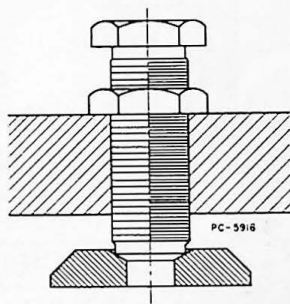
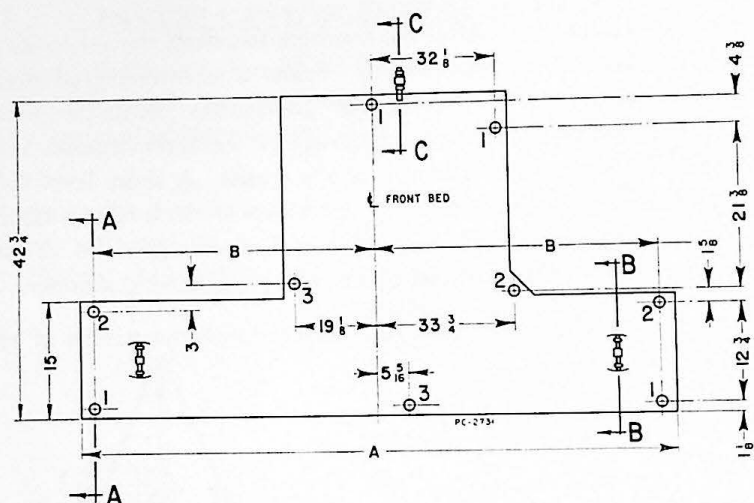
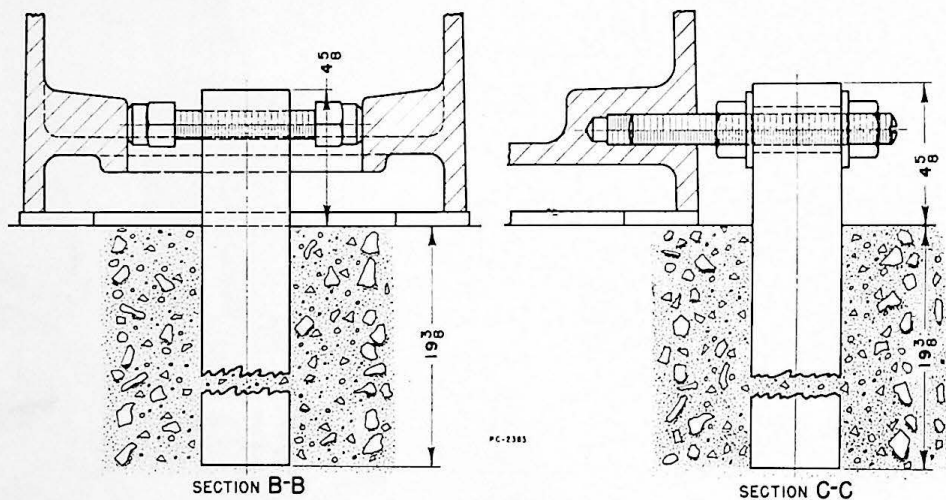

Figure 13B
Figure 14A
Figure 16
2. Adjust the leveling screws (Figure 13B), indicated by the numeral "1" at the front and rear of the bed (Figures 14A and 14B), slowly and evenly until the leveling instrument indicates absolutely level both lengthwise and across.
4. Errors in alignment may be corrected by deflecting the bed with screws provided on the leveling and aligning blocks. These screws are indicated by letters "A", "B" and "C", Figures 14A and 14B. For a section view of these screws see Figure 16, "BB" and "CC".
Bolting the machine to the foundation may be accomplished by means of the hole through the center of the leveling jack. Each jack consists of an adjusting screw, locking nut, and a steel disc screw-seat (Figure 13B) which increases the effective bearing area of the screw upon the foundation. Before proceeding, it will be necessary to accurately locate the bolt holes. Notice that the center distances of bolt holes, given on the "floor plans" shipped with the machine, are approximated. Proceed as follows: